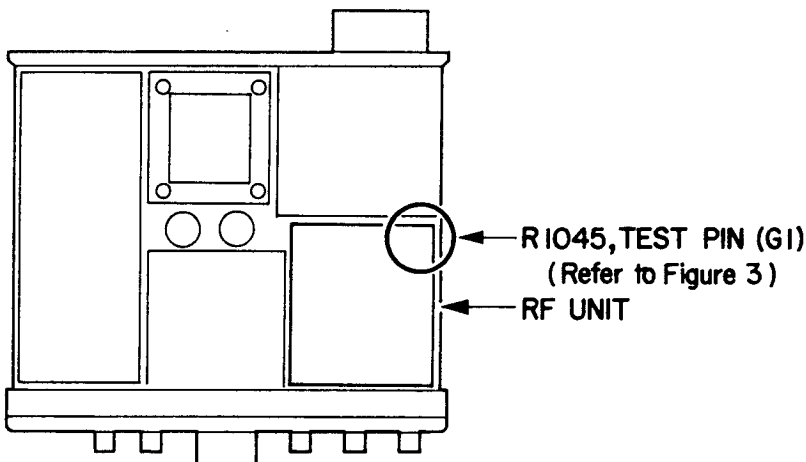

Figure 1 TOP VIEW
1. On the component side of the RF Unit, install a 1 μ F, 50 WV electrolytic capacitor, as shown in Figures 1 and 2. The positive lead of the capacitor is soldered to the lead of R1045, and the negative lead to the TEST PIN (G1).